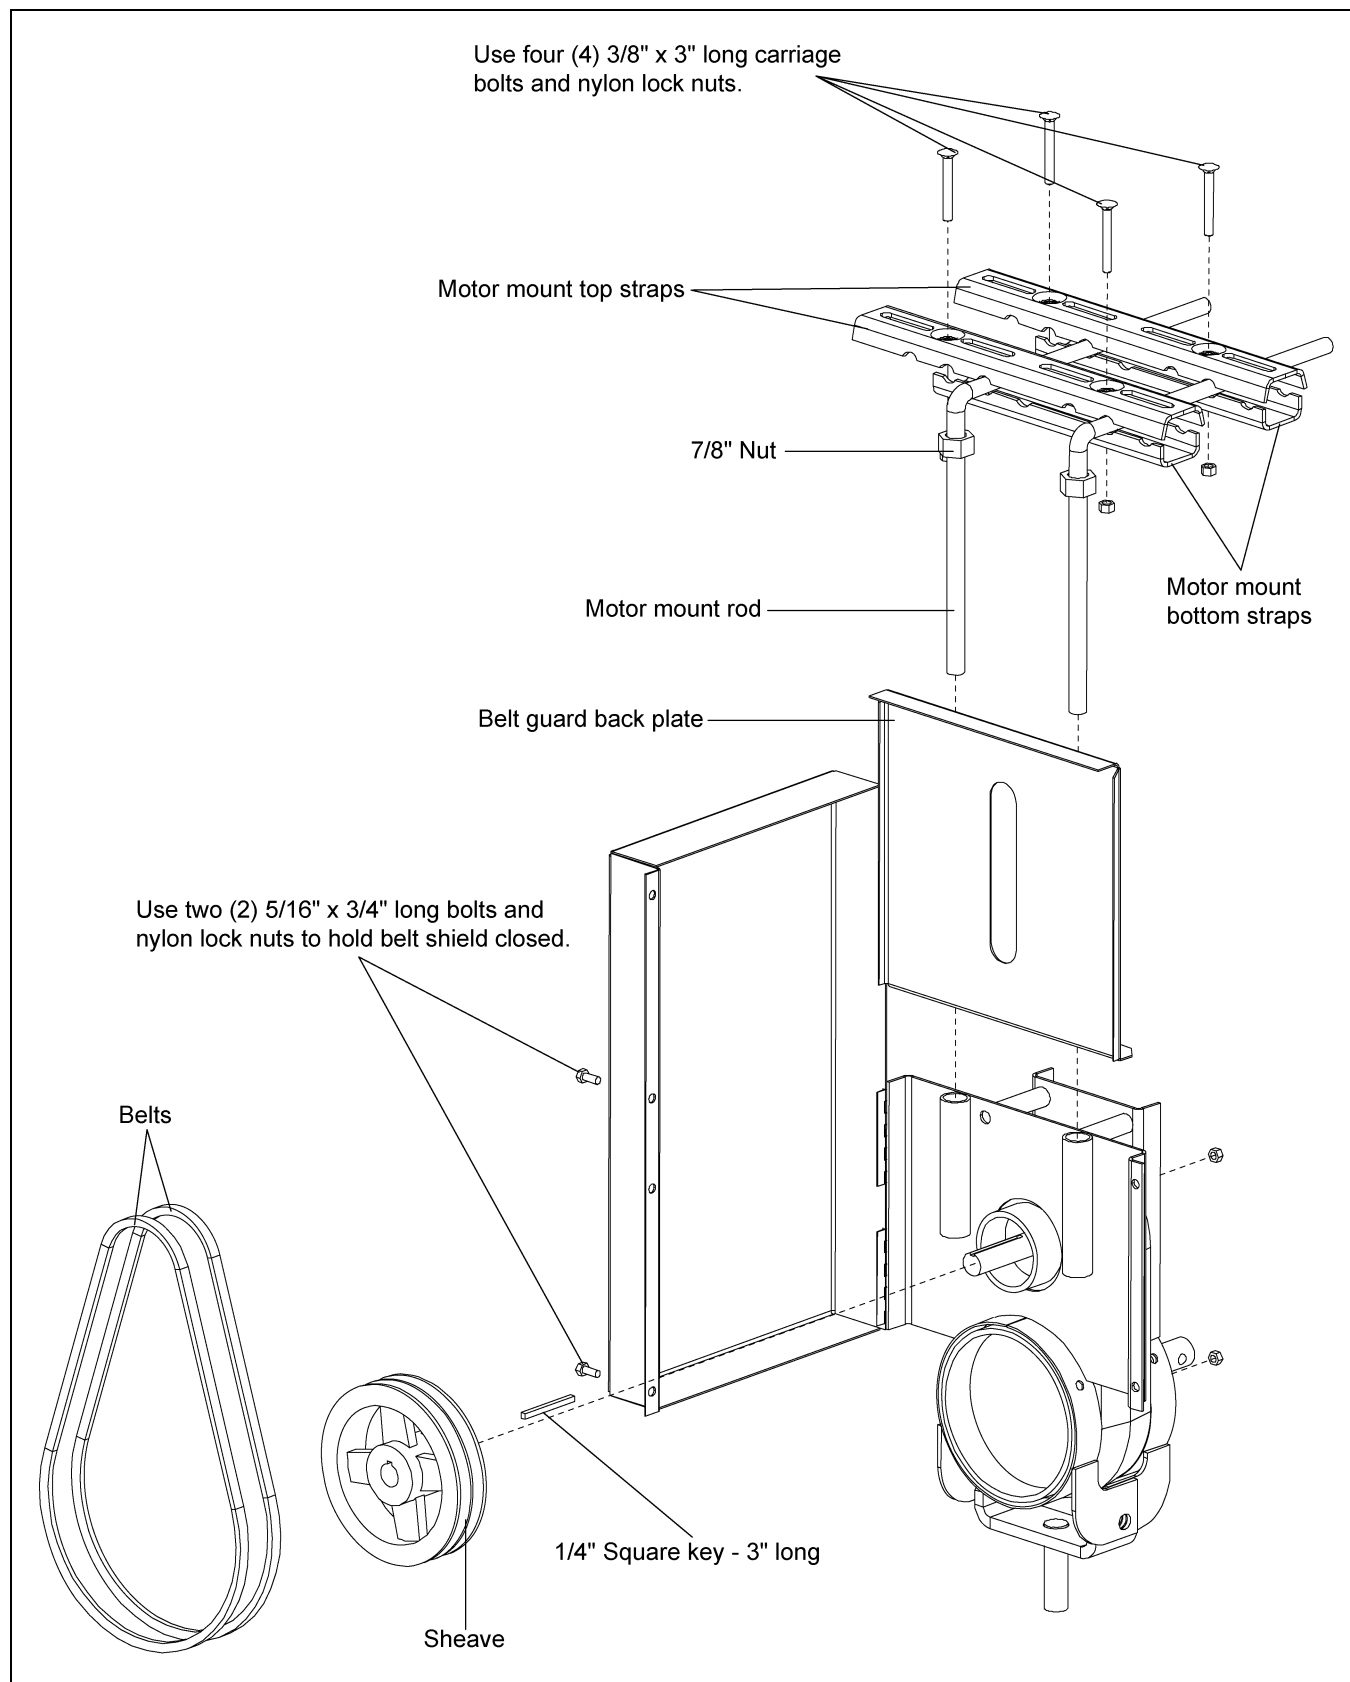

Figure 4C
3. Slide motor mount rods through the belt guard back plate and into the tubes on the motor mount frame. Attach the top and bottom straps to the motor mount rods as shown in Figure 4C on Page 16.
6. Install the belts and tighten them by adjusting the motor with the 7/8" nuts on the motor mount rods. Bolt the shield door closed with two (2) 5/16" x 3/4" cap screws and nylon lock nuts.